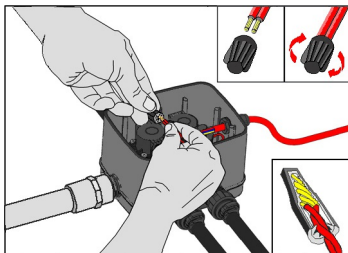
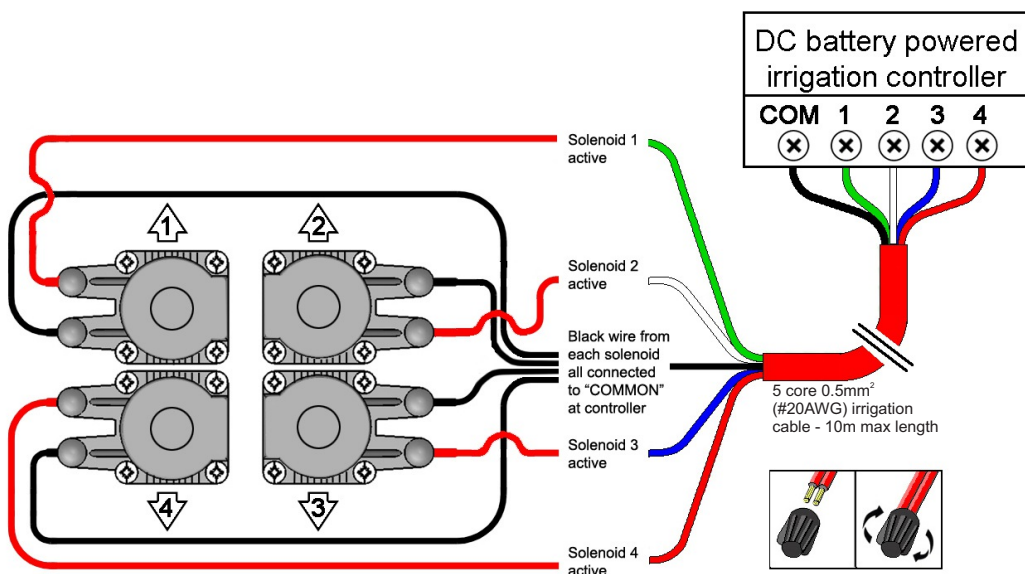

Fig 4
Fig 6 - Wiring diagram
5. Using one of the four smaller black and white wire connectors (d), connect the red wire from solenoid valve #1 to one of the remaining controller cable wires (Fig 4). Repeat with the other connectors until all the solenoid wires have been connected. eZyvalve™4 solenoid valves are marked 1 to 4 inside the box above the outlets. By checking the wire colour at your irrigation controller, you can ensure that the valve numbering sequence matches that of the controller (Fig 6 wiring diagram).